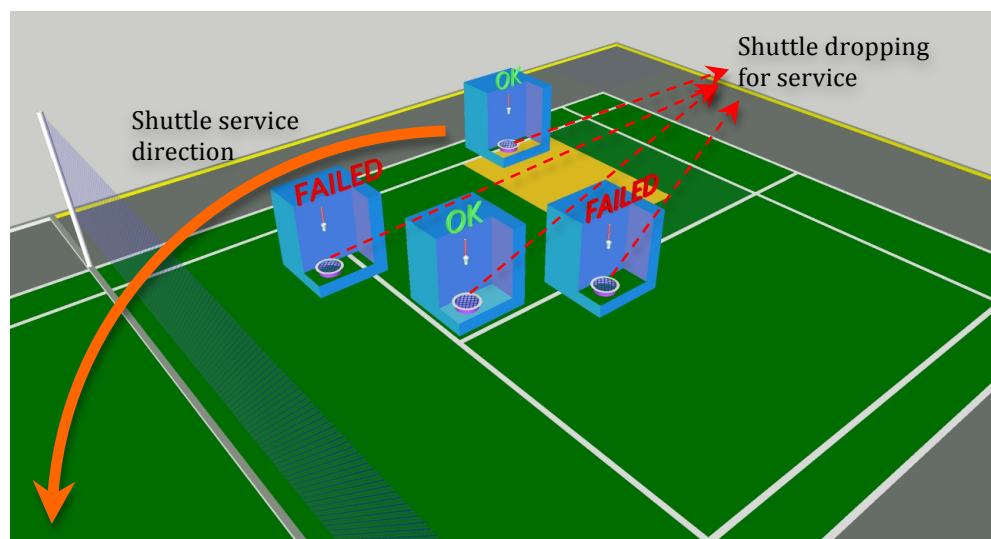

Figure 2: The legal (OK) and the illegal (FAILED) shuttle dropping for service.
- 4.4.5. When delivering a service, the robot must drop the shuttle vertically using free-fall. The position to drop the shuttle must be in the space above of right side of the service area (including the border line) of its own zone. (Ref to Fig.2)